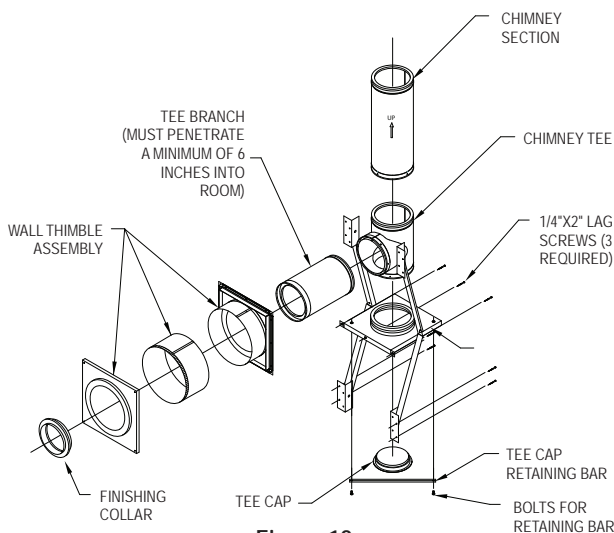
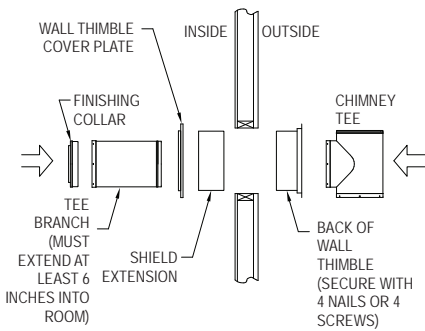

Figure 19
Figure 20
shield. On the outside wall, install the back portion of the Wall Thimble. Center the back portion of the Wall Thimble (with shield inside wall) in the framed opening of the outside wall. **Be sure to seal the flange of the Wall Thimble around the wall by using a non-hardening waterproof sealant.** Attach the back portion of the Wall Thimble to the outside wall using at least (4) 8-penny nails or (4) 1-1/2" wood screws (**Fig 20**). Depending on the thickness of your wall, you will need to adjust the shield extension to insure that you have a continuous shield throughout the wall penetration. Adjustments can be made by sliding the extension in or out of the back portion of the shield. Verify that the shield extension reaches the front cover plate when the cover plate is in position. Do not install cover plate at this time. When the shield extension is in position, secure it to the back portion of the shield using (4) sheet metal screws (**Fig 20**).
Support so that the chimney Tee will be centered inside the Wall Thimble (**Figs 19 & 20**). Important: Verify that Tee Support is level, then secure Tee Support to outside wall using (3) 1/4"x 2" long lag screws for the support base, and (8) #8, 2-1/2" wood screws for the brackets (2 screws per bracket). Be sure to keep the Tee Support level.
**Important:** The Chimney section used to penetrate through the wall must extend at least 6" into the room. Secure the Chimney Branch to the Tee by using the (6) sheet metal screws provided. It is very important that a good connection is made between the Branch and the Tee. (**Fig 20 & 21**) Install the Tee Cap in the bottom of the Tee, on the underside of the Tee Support Bracket. Be sure that the Tee Cap is securely inserted into the bottom of the chimney pipe. Secure the Tee Cap in place by attaching the Tee Cap Retainer Bar using the two (2) bolts included (**Fig 19**).